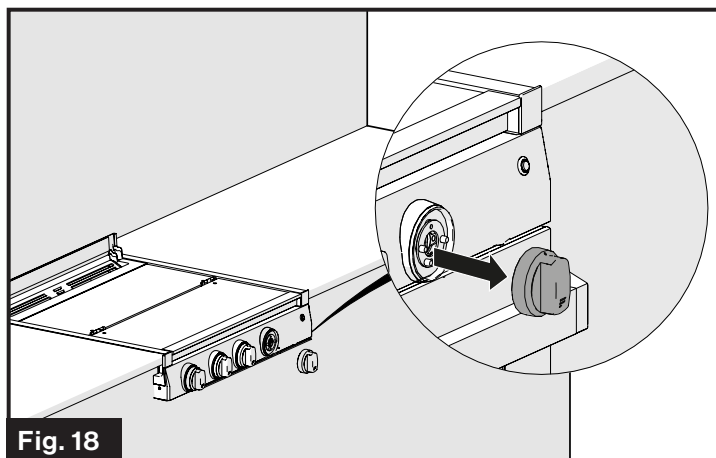

Fig. 18
2. Grasp and pull on the control knob with the broken LED light. (Fig. 18)